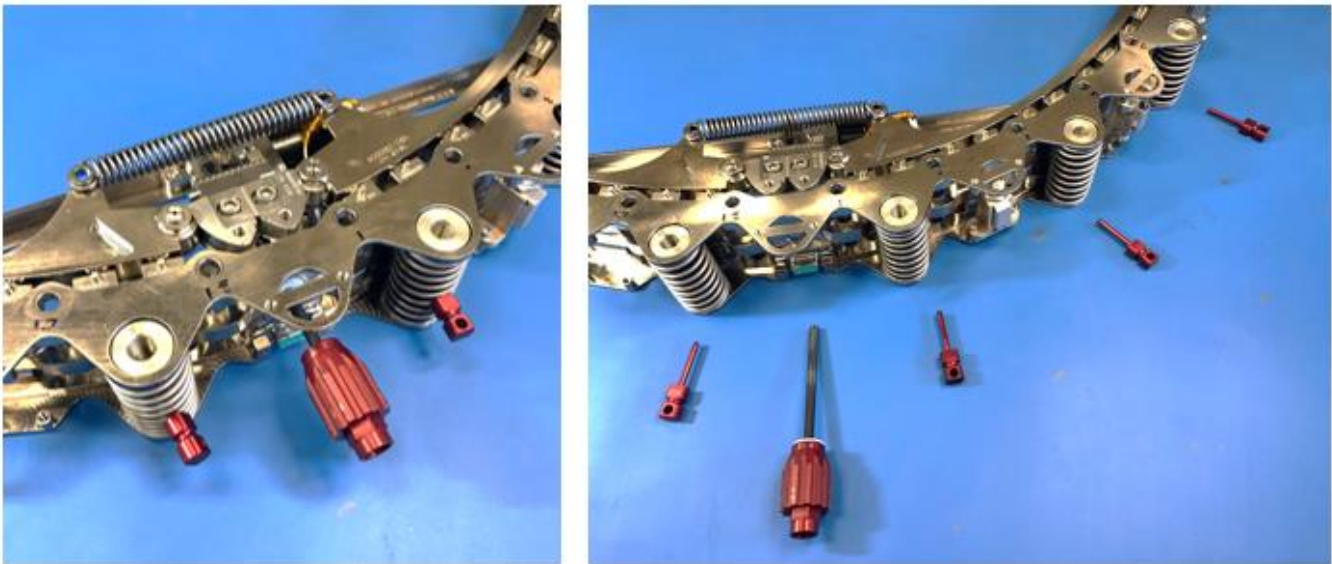

Figure 12-3: Removing the Stow Screw and Spring Locks
12.2.3	Verify Stow Screw is not attached to the ALB. Leaving the Stow Screw in during deploy can damage the ALB. See Figure 12-3.